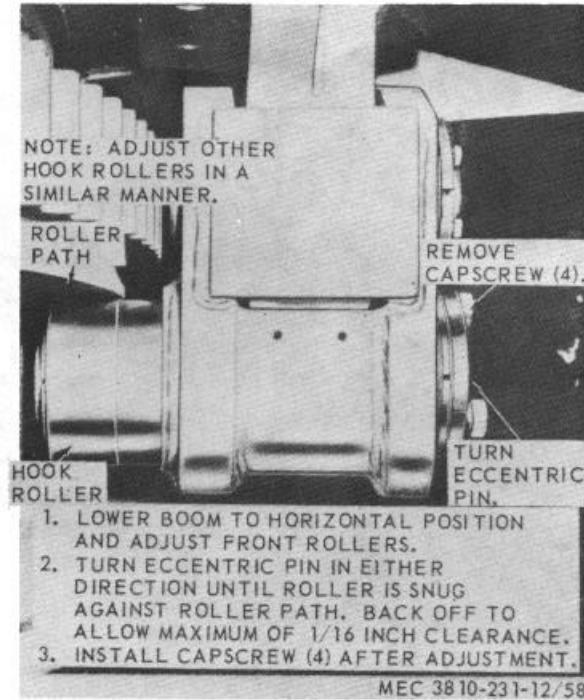

Figure 58. Hook roller adjustment.
- (1) When there is more than 1/16 inch gap between the lower side of the roller path and the hook roller, the hook rollers (fig. 58) must be adjusted.
- (2) Lower the boom to approximately the horizontal position and adjust the front hook rollers.
- (3) Remove the cap screws and rotate the eccentric pin in either direction until the roller is snug against the bottom of the roller path. A maximum of 1/16 inch